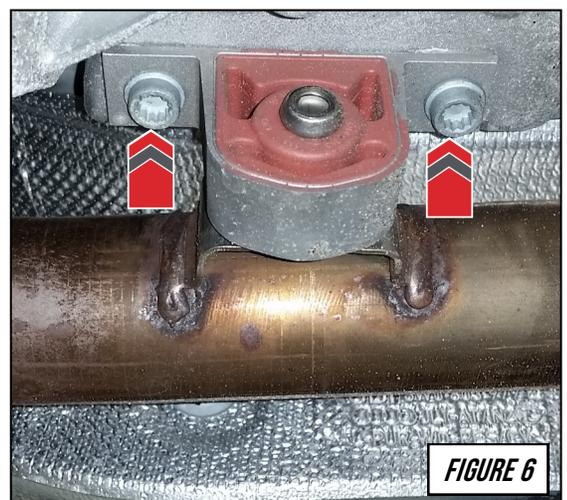

FIGURE 6
Remove the four (4) 10mm triple square bolts that hold the hanger brackets onto the cross brace; driver side shown by the arrows in **Figure 6**.